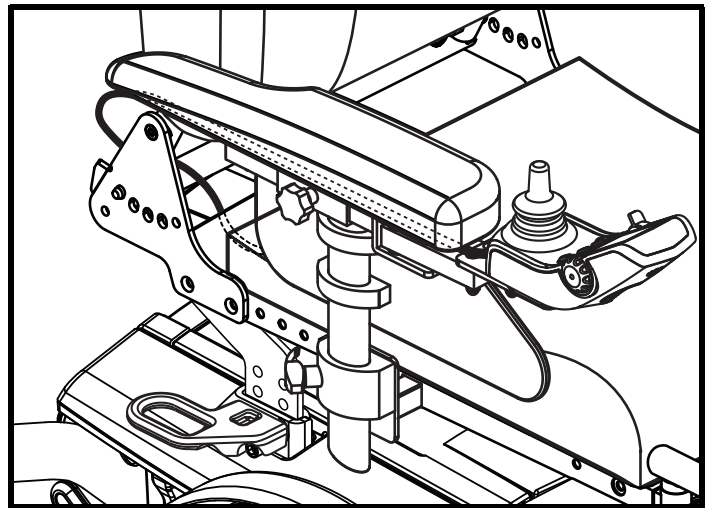

Figure 18. Cable Routing
7. Route the controller harness to the front of the power base and reconnect the controller. See figure 18.